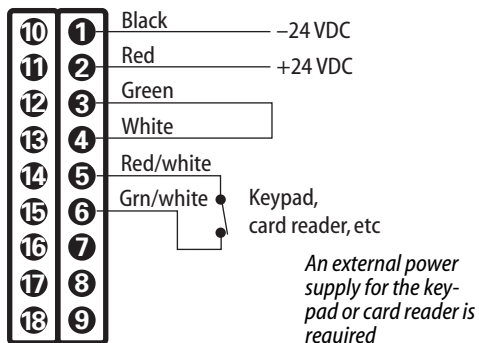

Figure 9 Connecting a card reader, keypad, or other external inhibiting input device
- Connect the RED/WHITE and GREEN/WHITE wires to an external inhibiting device such as a card reader, keypad or other input as shown in Figure 9.